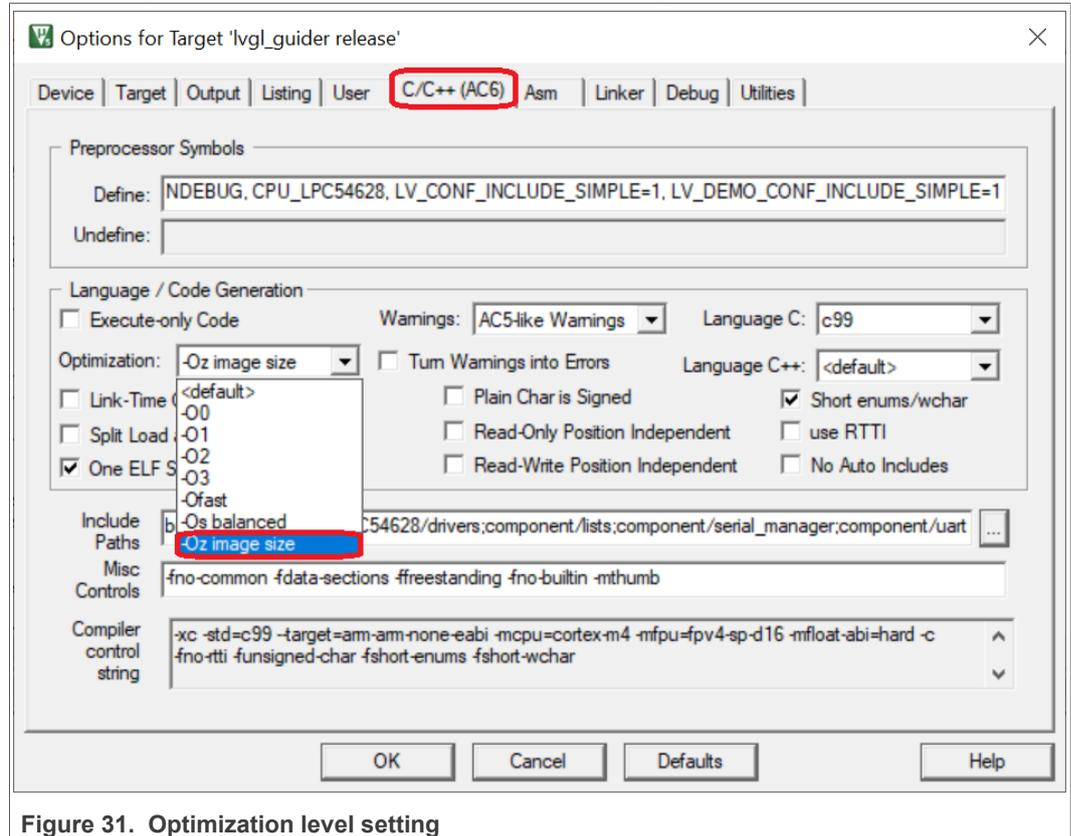

Figure 31. Optimization level setting
- Set IDE optimization level for Keil IDE as shown in Figure 31.